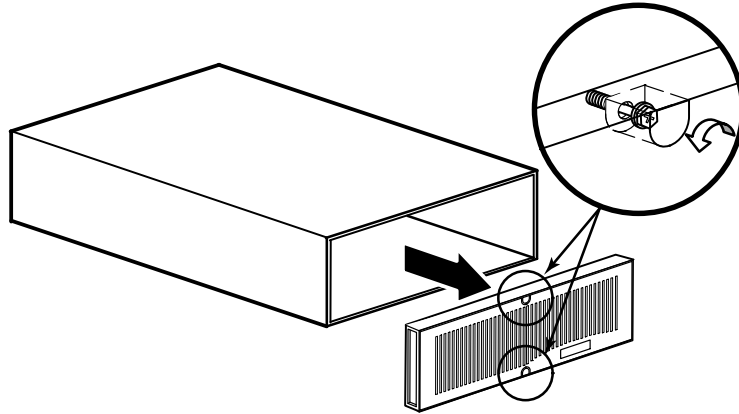

Figure 10. Removing the EBM Front Cover
2. Remove the EBM front cover (see Figure 10).